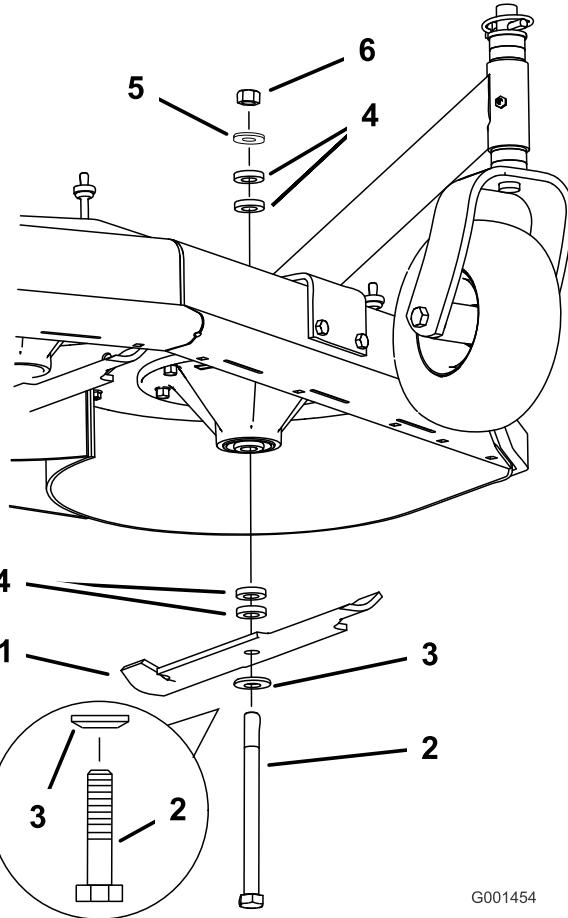

Figure 11
3. Hold the blade bolt and remove the nut (Figure 11).
4. Slide the bolt down through the spindle, and change the spacers as needed (Figure 11).
5. Install the bolt and curved washer, add extra spacer(s), and secure them with a thin washer and a nut (Figure 11).